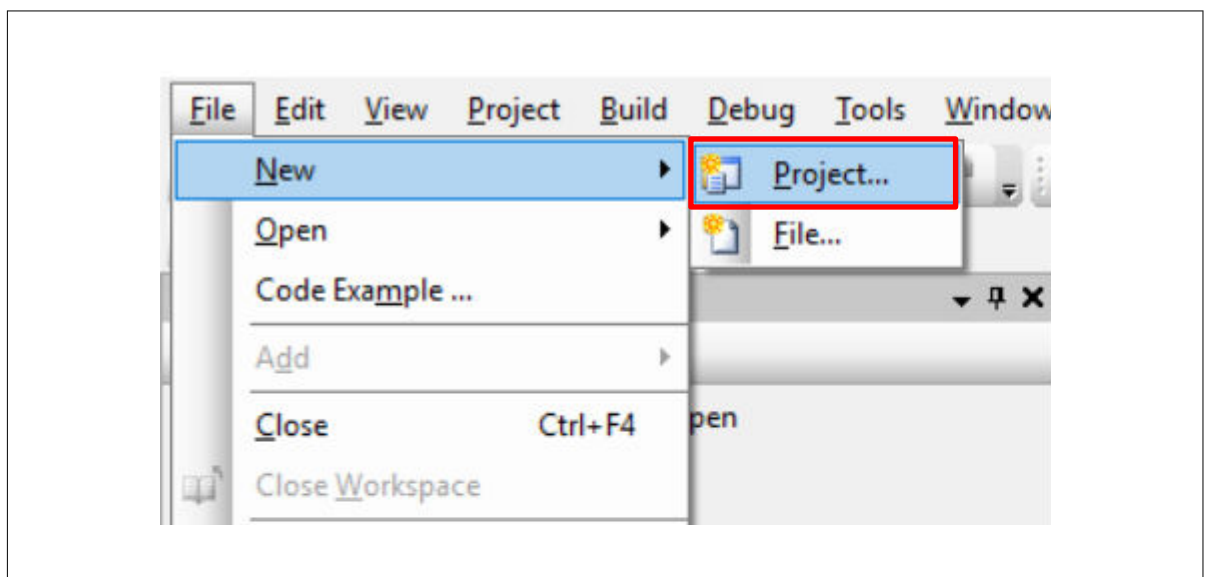

Figure 33 Creating a new project
1. Start PSoC™ Creator, and from the **File** menu choose **New > Project**, as shown in Figure 33.